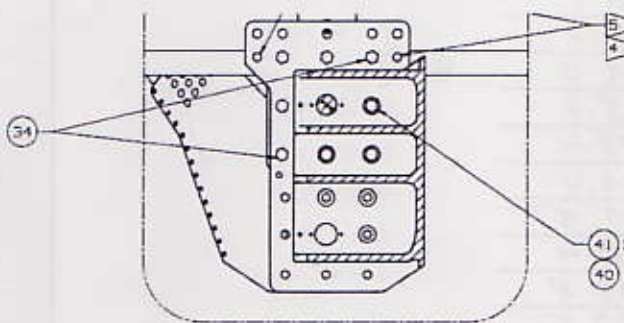
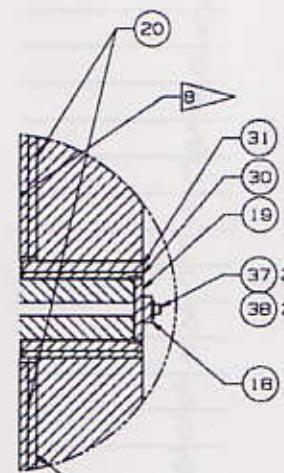

Figure 5
Figure 6
11. Install ten (10) Bolts, Altered Item P/N SDG39135892-811, item 41 in Figure 5, Washers CSK P/N NAS1587-8C, item 40, and two (2) Shims, Lower VC Joint P/N SDG39135752-801, item 20 in Figure 6; Bushing, Outer LG Lower VC Joint P/N SDG39135757-007, item 31 in Figure 6; Bushing, Inner LG Lower VC Joint P/N SDG39135757-005, item 30, into each of the four (4) Lower USS Joints of the Upper USS-02 Assembly per drawing P/N SEG39135726-302. Install two (2) Counter Sink Washer Lower USS Joint, SDG39135748-002 item 34 in Figure 5, in place of standard counter sink washers and flat washers. Peel or add shim as necessary to center the VC between the joints.